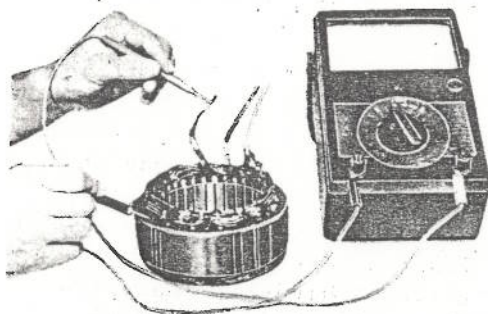

Fig. 10-132
6) For checking the stator coil, disconnect the circuit between the stator coil and diode and then, connect the tester between the lead of the coil and the core, if conduction takes place therebetween, the trouble may be attributed to short-circuit. (See Fig. 10-132)